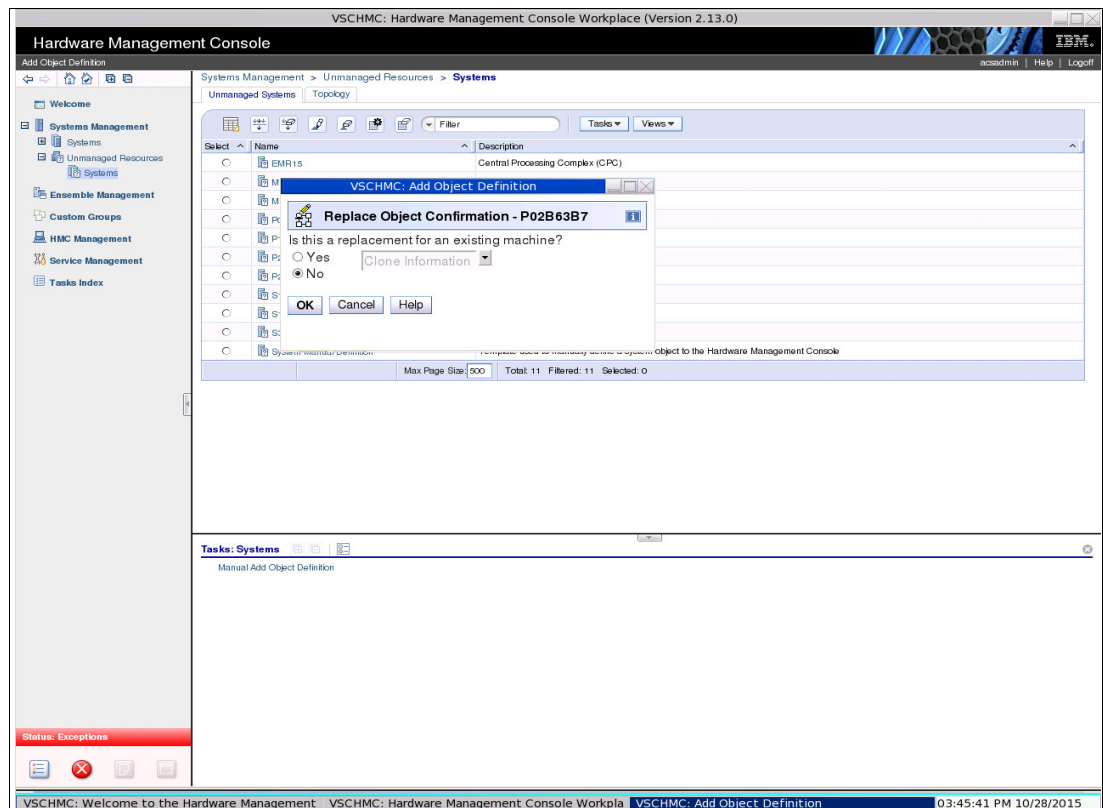

Figure 4-11 Replacement Object Confirmation message
8. A Replacement Object Confirmation message appears (as shown in Figure 4-11) in which we are prompted to confirm if this object is a replacement object for a machine. Because this object is new, we click **No** and then, click **OK**.